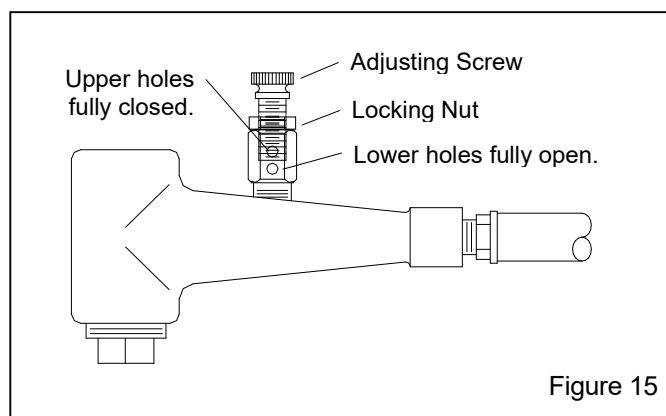

Figure 15
5.3 Media-Air Mixture – Figure 15
5.3.2 If media does not flow smoothly, loosen the locking nut, and adjust the metering screw until the upper holes in the metering stem are closed off and the lower holes are fully open, as shown in Figure 15. This adjustment is a starting point.